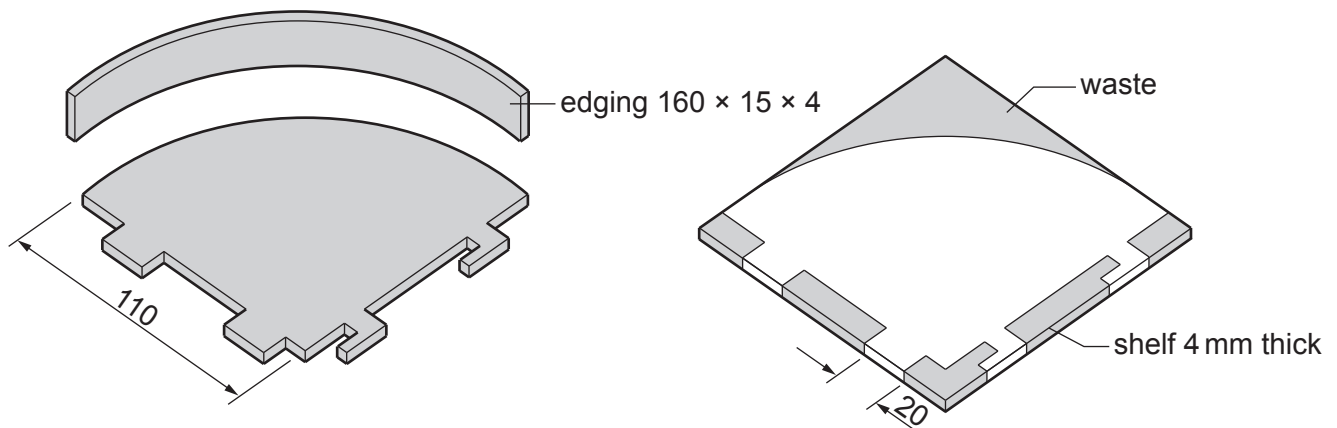

Fig. 12.3
- (e) Fig. 12.3 shows details of one shelf and a separate edging that will be joined to the front edge of the shelf.